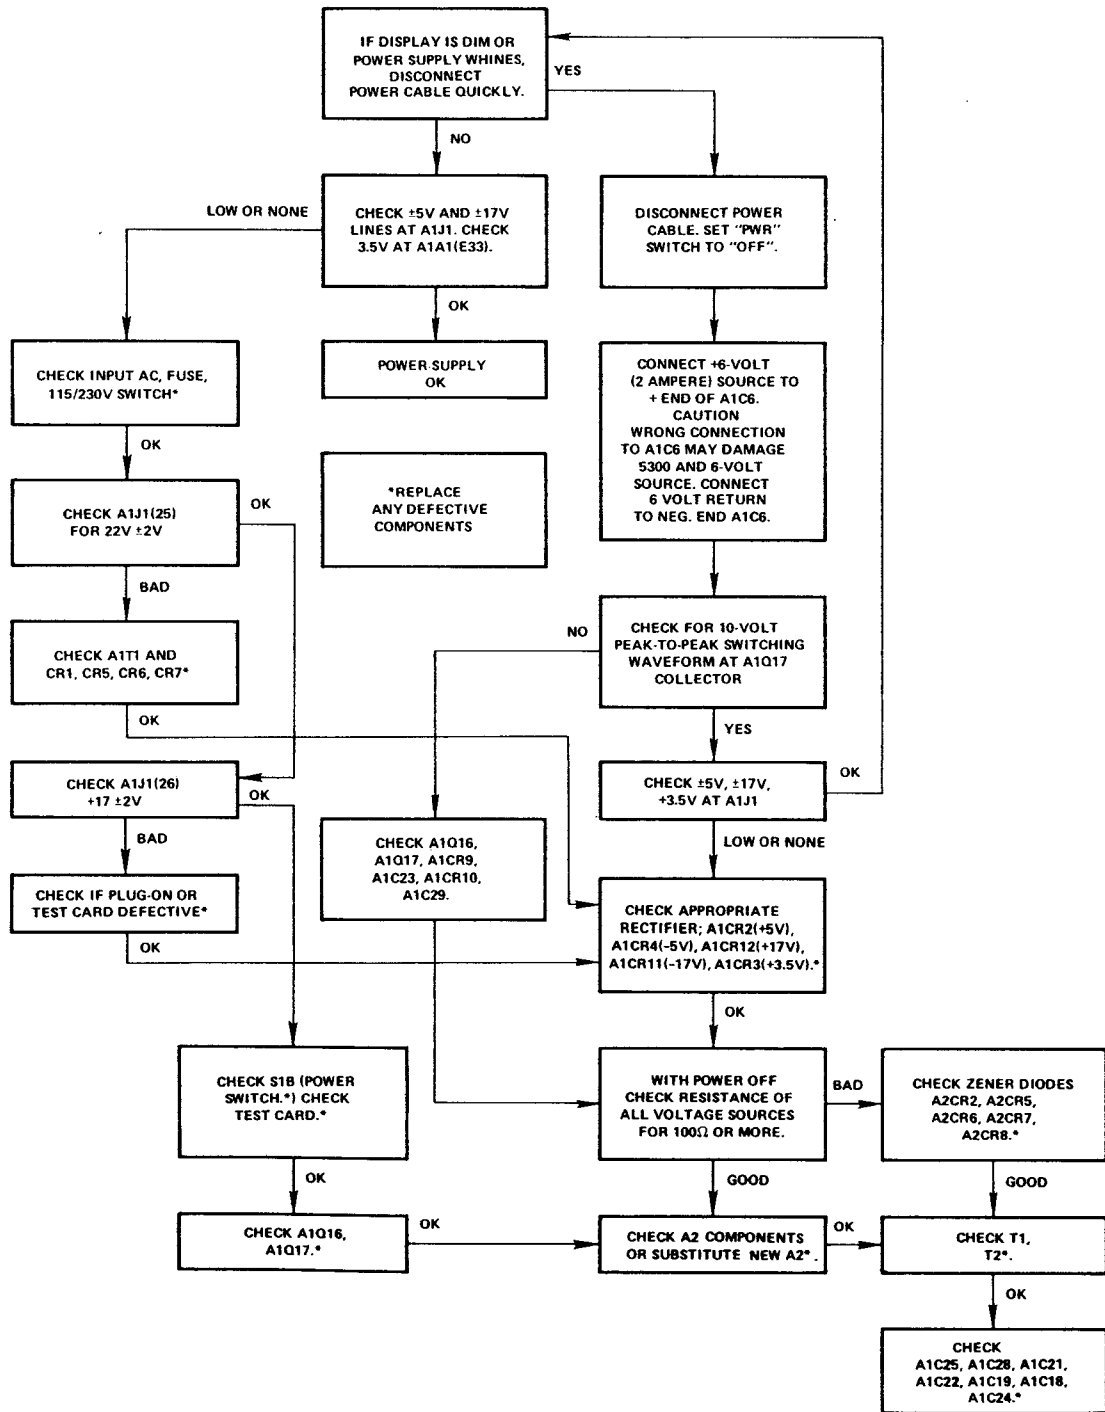

Figure 5-1. 5300B Power Supply Checks
a. 5300B mated to the plug-on in use. Tests located in Paragraph 5-20 and Figure 5-1 and 5-2 can be performed with plug-on mated to the mainframe. Additional tests can be performed with a plug-on, using performance and maintenance checks in the plug-on section.
5-19. Power Supply Checks. Power Supply voltages may be checked by connecting pins 50 and 25 together. The preferred method, however, is to use the Diagnostic Interface Card, and Diagnostic Test Card "B," Test 7. Perform Power Supply Checks and oscillator checks using Figure 5-1 troubleshooting chart as an aid. Voltages should be: